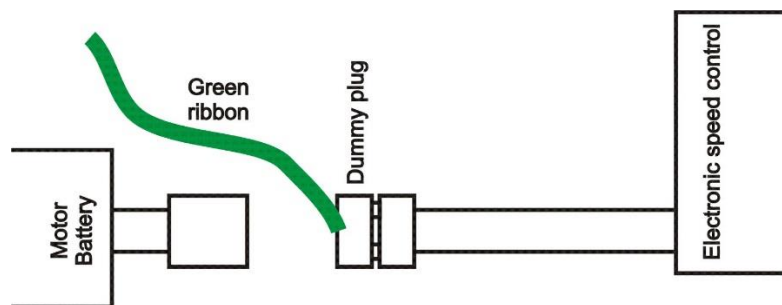

Figure 1
- a. Having the motor battery disconnected from the esc, (refer Fig. 1) or